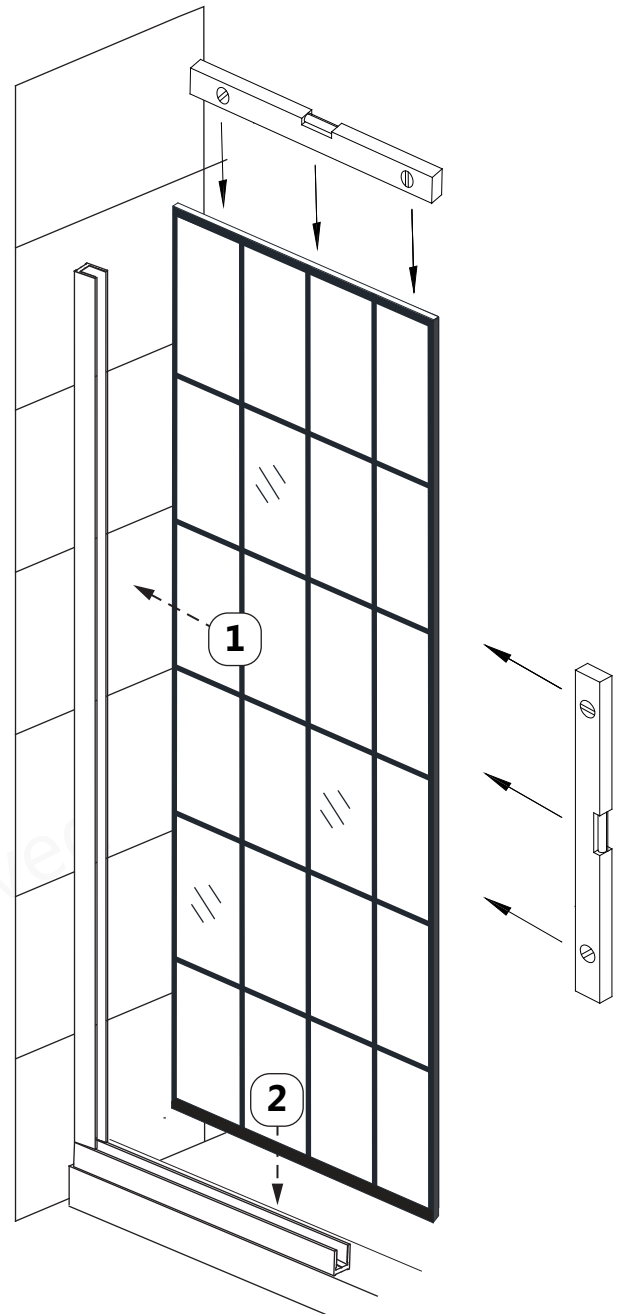

Fig 8
8. Install the **Stationary Glass (#11)** into the **Vertical U-Channel (#09)** first and then slide it down into the **Bottom U-Channel (#29)**. Check for level and plumb. (Fig 8)